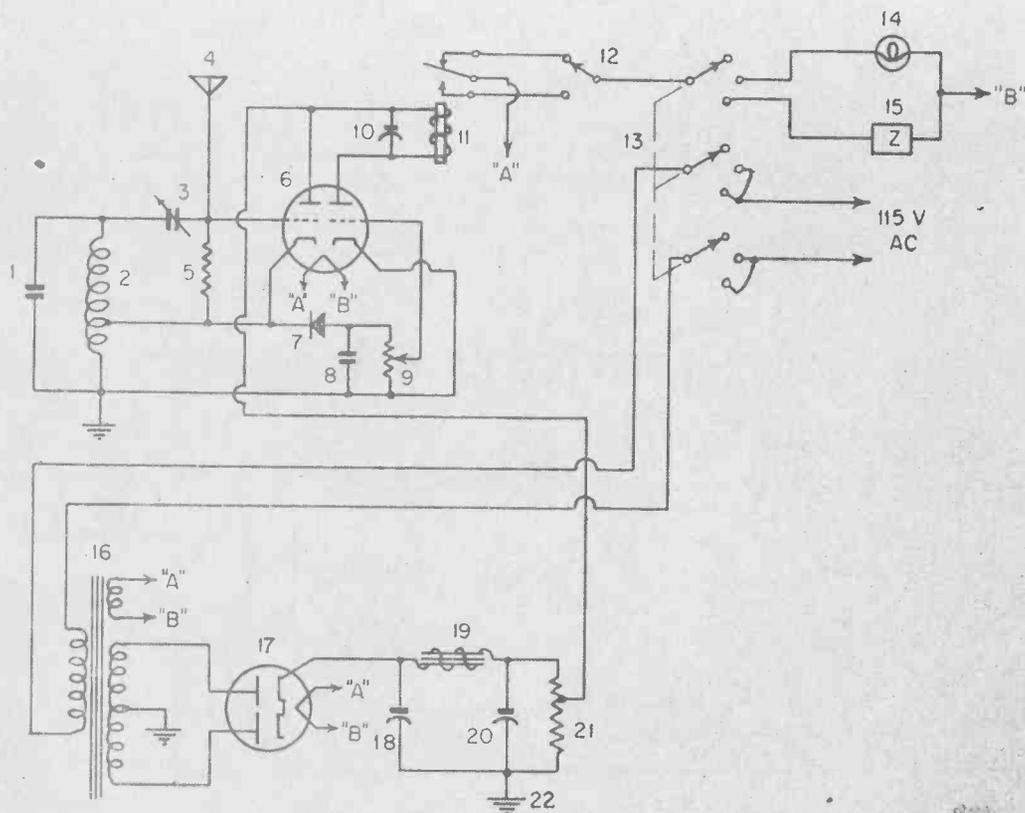

FIG. 18
- Refer to Fig. 18. Without referring to previous figures, identify all of the numbered symbols.
4. False. Sometimes leads stop with a code letter, and pick up elsewhere in the diagram with the same code letter. (See "A" and "B" in Fig. 18.) This minimizes the lines required in the schematic and makes it simpler.